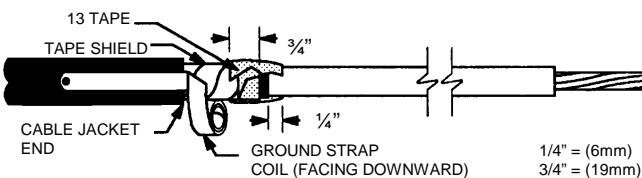

Figure 2
3. Wrap 2 highly stretched half-lapped layers of Scotch™ 13 Semi-Conducting Tape over the ends of the tape shield and semi-con. Start and end taping $\frac{3}{4}$ " (19 mm) onto tape shield leaving a smooth, even leading edge $\frac{1}{4}$ " (6 mm) onto cable insulation (**Figure 2**).
2. Lay the ground strap along cable with extended coil facing downward (away from you) (**Figure 2**). **NOTE: Coil should be in contact with cable shielding and as close as possible to the cable jacket end.**